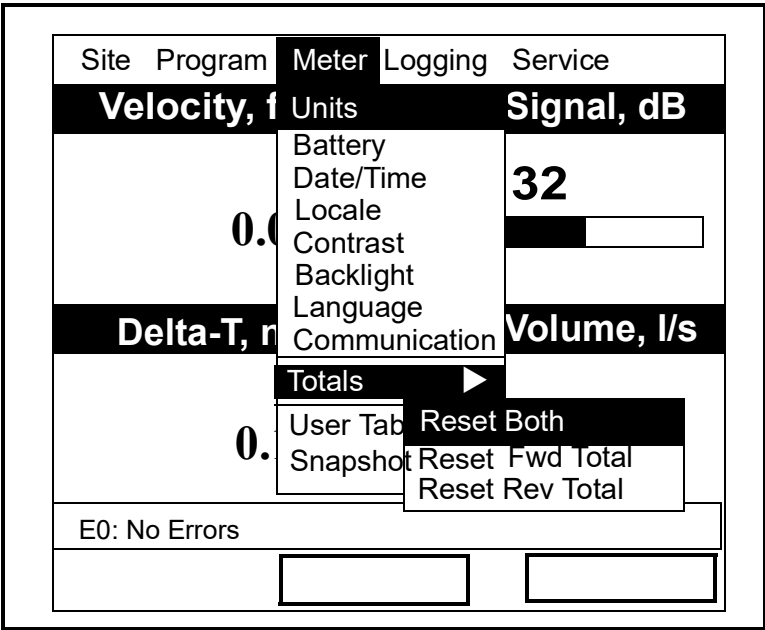

Figure 109: The Resetting Totals Menu
- 1. From the Meter menu, scroll to the Totals entry and press [ENTER]. The window now appears similar to Figure 109 below.